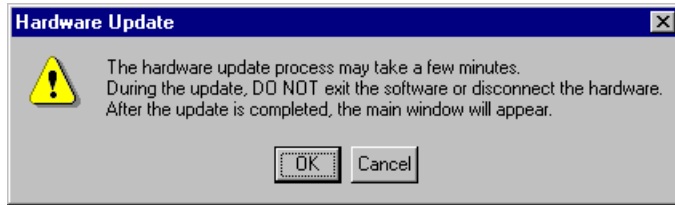

Figure 1-7. Hardware Update Dialog Box
2. After reading the message in the Hardware Update dialog box, click OK as shown in Figure 1-7.